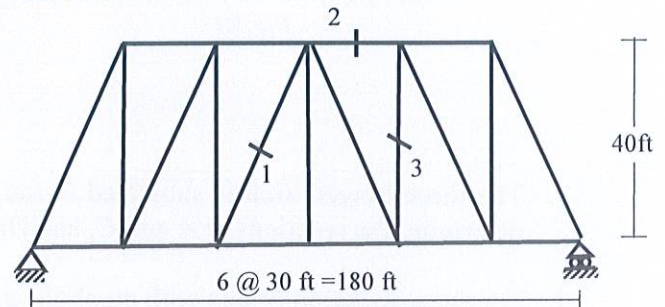

Fig.A2
2. For the truss shown in *Fig A2*, draw the influence lines of member 1, 2 and 3. Note that, each bottom chord joint consists of a cross girder and load moves over the floor beams placed over the girders. [12]